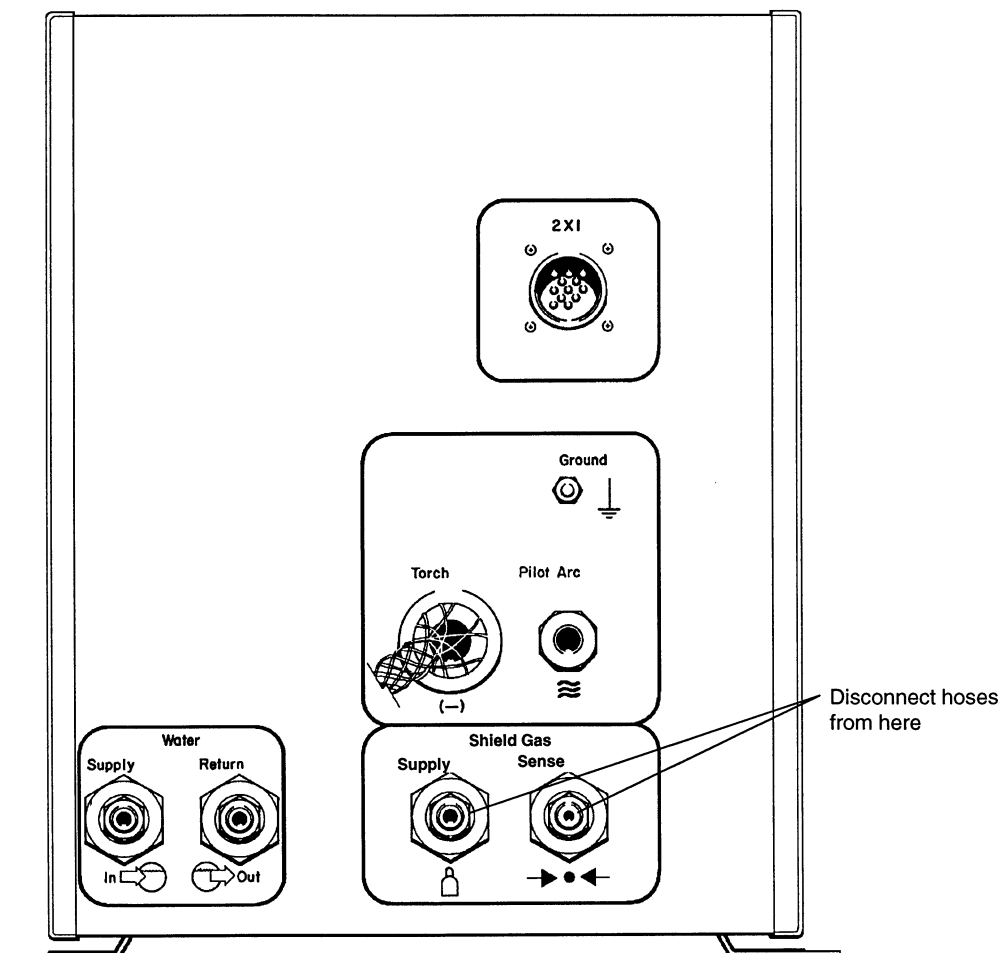

Figure 1 Disconnecting External Shield Gas Hoses
1. Disconnect the external shield gas supply and sense hoses from the RHF console. See Fig. 1.